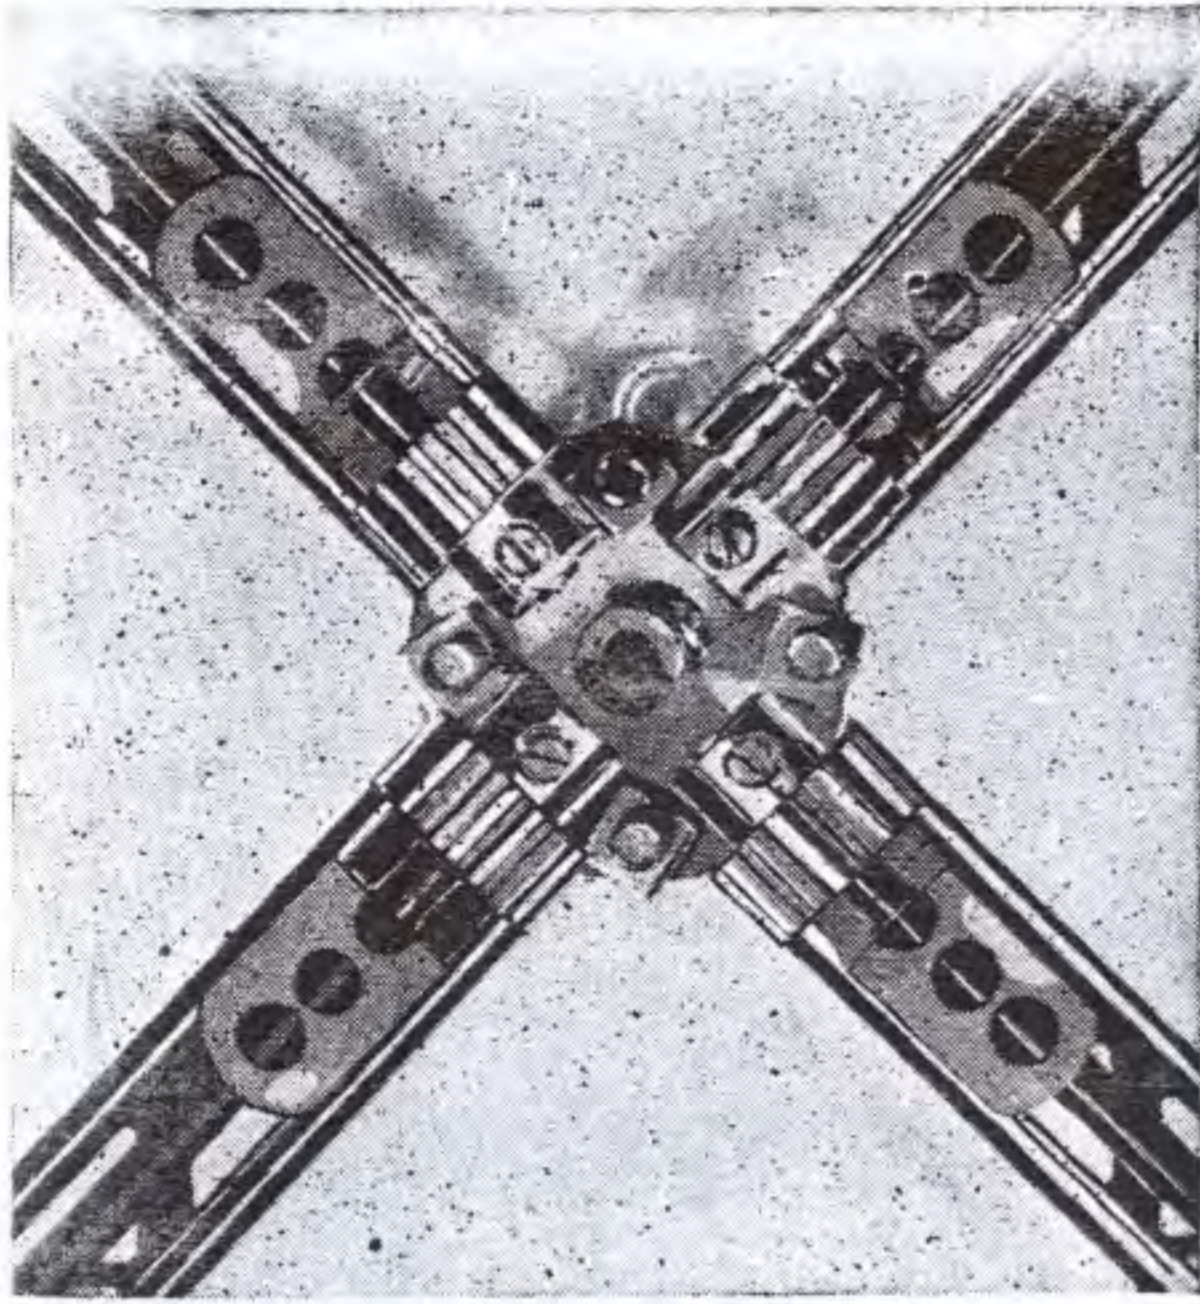

FIGURE 4
The detail of the driving mechanism is shown in Figure 4 and 5. Two (OG) 21 hole strip formed are fastened between two (BT) pierced discs. These (OG) serve as bearings for 7 1/2" axles to which are fastened P13B 12 tooth pinion gears. These gears revolve around the stationary crown gear and cause the horses to move up and down.